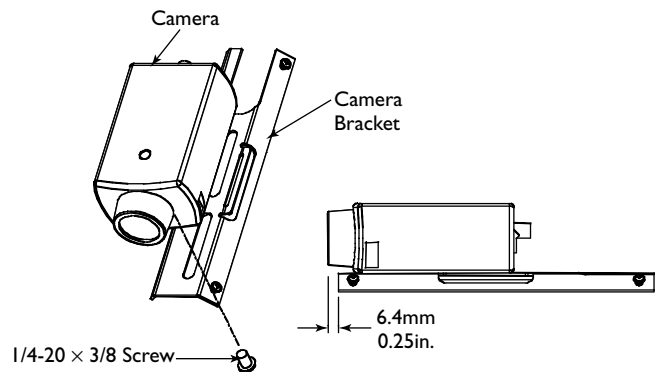

FIGURE 4 Attaching the Camera
- 3b. Use the 1/4-20 x 3/8in. screw to mount the camera to the camera bracket. The lens should extend approximately 6mm (0.25in.) from the front of the camera bracket. See FIGURE 4.